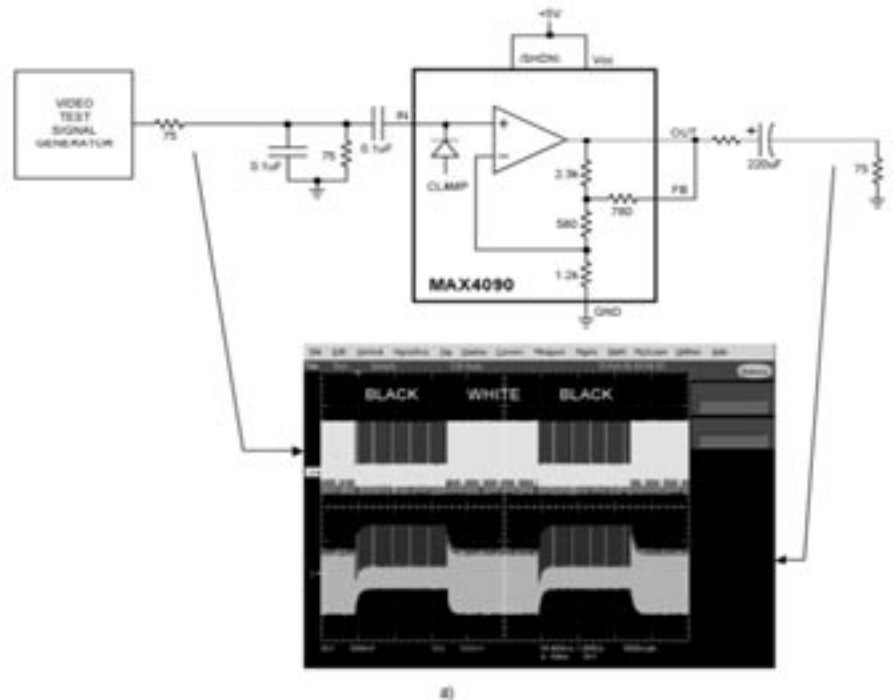
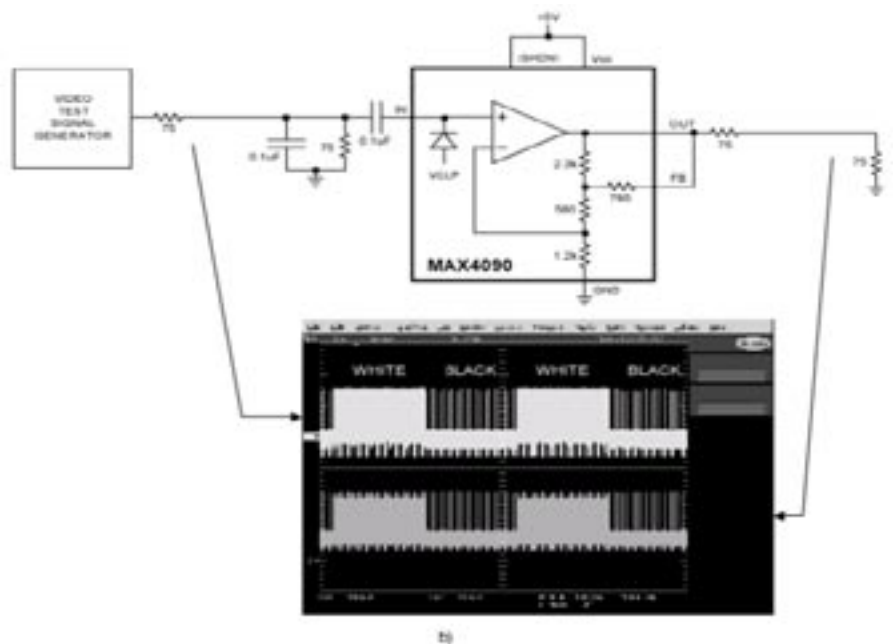

Figure 1a. AC-coupled output connection.
Figure 1b. DC-coupled output
For analog video circuits, the question of whether or not to design an AC-coupled output depends as much on company policy and industry standards as technology and cost. An AC-coupled output includes a series capacitor (**Figure 1a**), while a DC-coupled output does not (**Figure 1b**). A designer new to video output circuits may find such a choice confusing because adding a capacitor to the output path increases cost, requires space, and distorts the video signal. However, the choice may have already been made due to historical, technical, or economic reasons.
miniaturize is just as intense. Companies, even some with a long history of designing video equipment, are now opting for DC-coupled video connections (Figure 1b). The main difference to note with a DC-coupled output is that the signal has a positive DC bias due to the fact that most systems have eliminated negative supplies. In order for the amplifier to remain in a linear mode of operation, the output signal must be biased between ground and the positive supply.
2Just as in Figure 1a, there is a 0.1 $\mu$ F capacitor across the 75 input-termination resistor to ground for the same reasons. Without the 0.1 $\mu$ F capacitor, the aliasing during the black portion of the video test signal would make the black portion look the same as the white portion.
**Figure 8** shows a Regulate video test signal applied to the MAX9503. Notice how the blank level of the output waveform is held near ground and that there is no field time distortion, in contrast to the normal AC-coupled waveform shown in Figure 1a. The Regulate test signal at the MAX9503 output maintains a much more well-defined output voltage range than that from an AC-coupled connection.